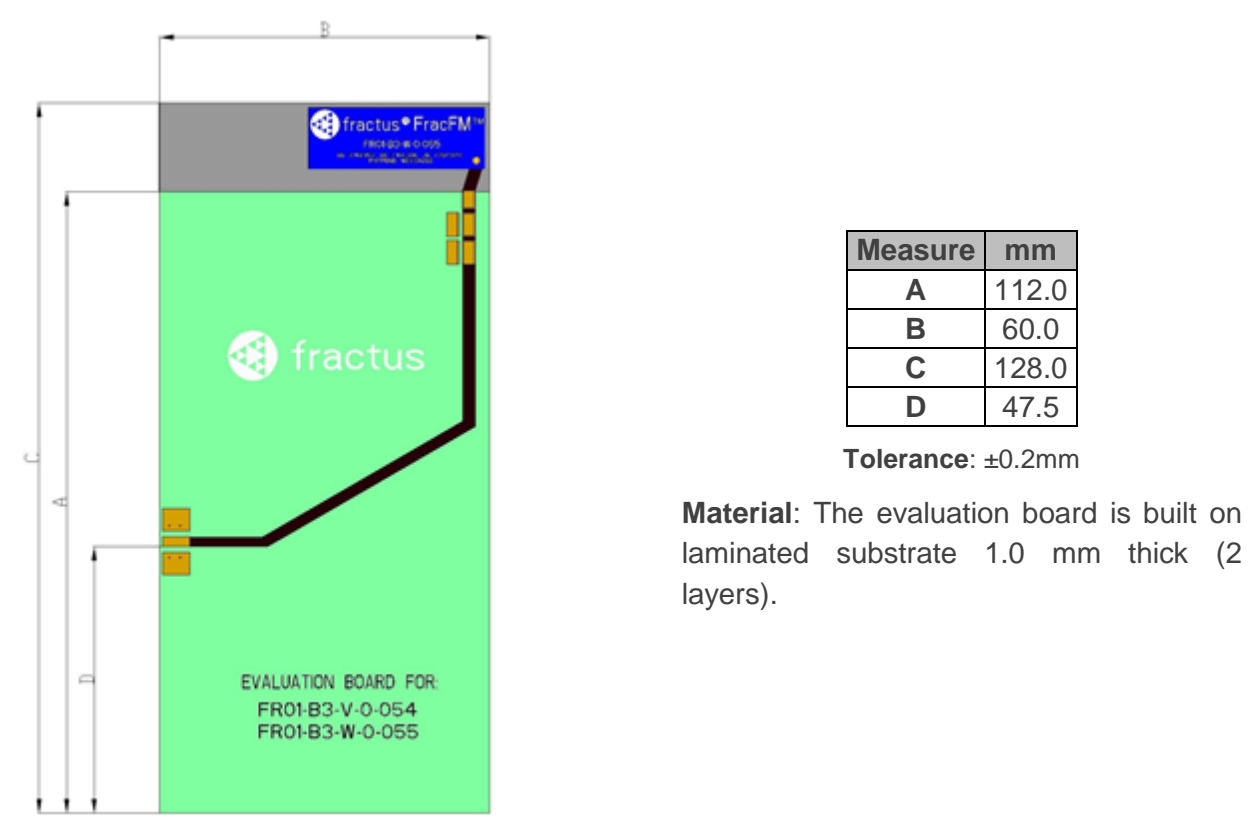

Figure 1 – EB\_FR01-B3-W-0-055. FracFM™ Evaluation Board.
**Table 1** – Technical Features. Measures from the evaluation board. See Figure 1.
The configuration used in testing the FracFM™ antenna is displayed in Figure 1.